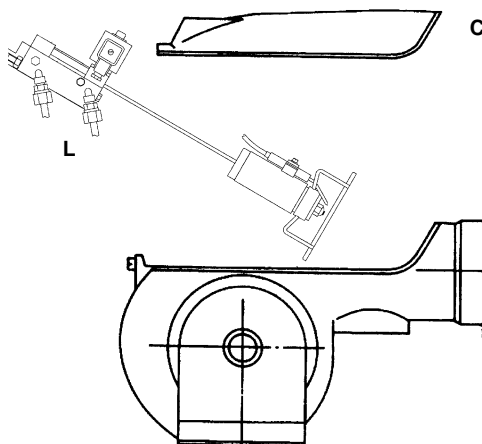

Fig. 16
- remove, inspect and clean combustion head (see Fig. 16), When replacing, pay scrupulous attention to the measurements indicated on page 19;